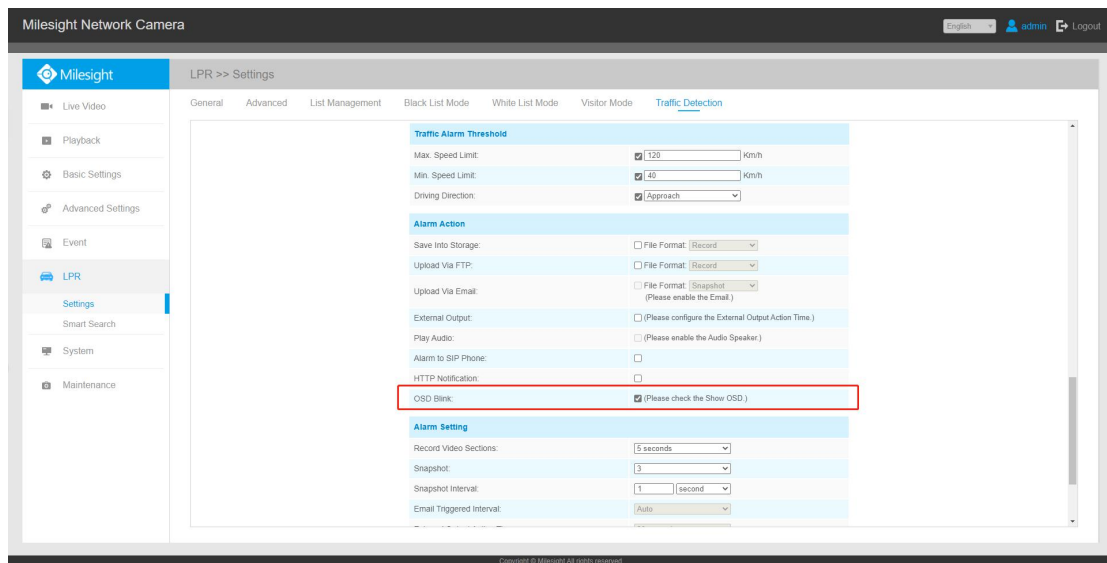

Figure 23 Alarm Action
**Step6:** Alarm Action & Alarm Settings. Set the alarm action. This part is the same as the regular alarm settings. For details, please refer to the Milesight Network Camera User Manual. Also note that the OSD Blink here needs to be turned on after the OSD function (Figure 23).